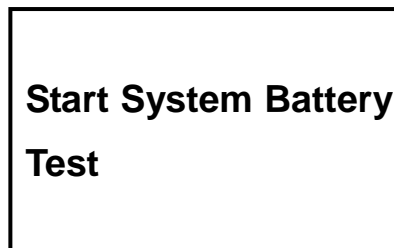

Fig. 4-15
- 2). Press  button and enter the submenu of “**Control**” (Fig. 4-15).
The first item of the submenu of “Control” is **Start System Battery Test** (Fig. 4-15). Press  button and LCD displays as Fig. 4-16.